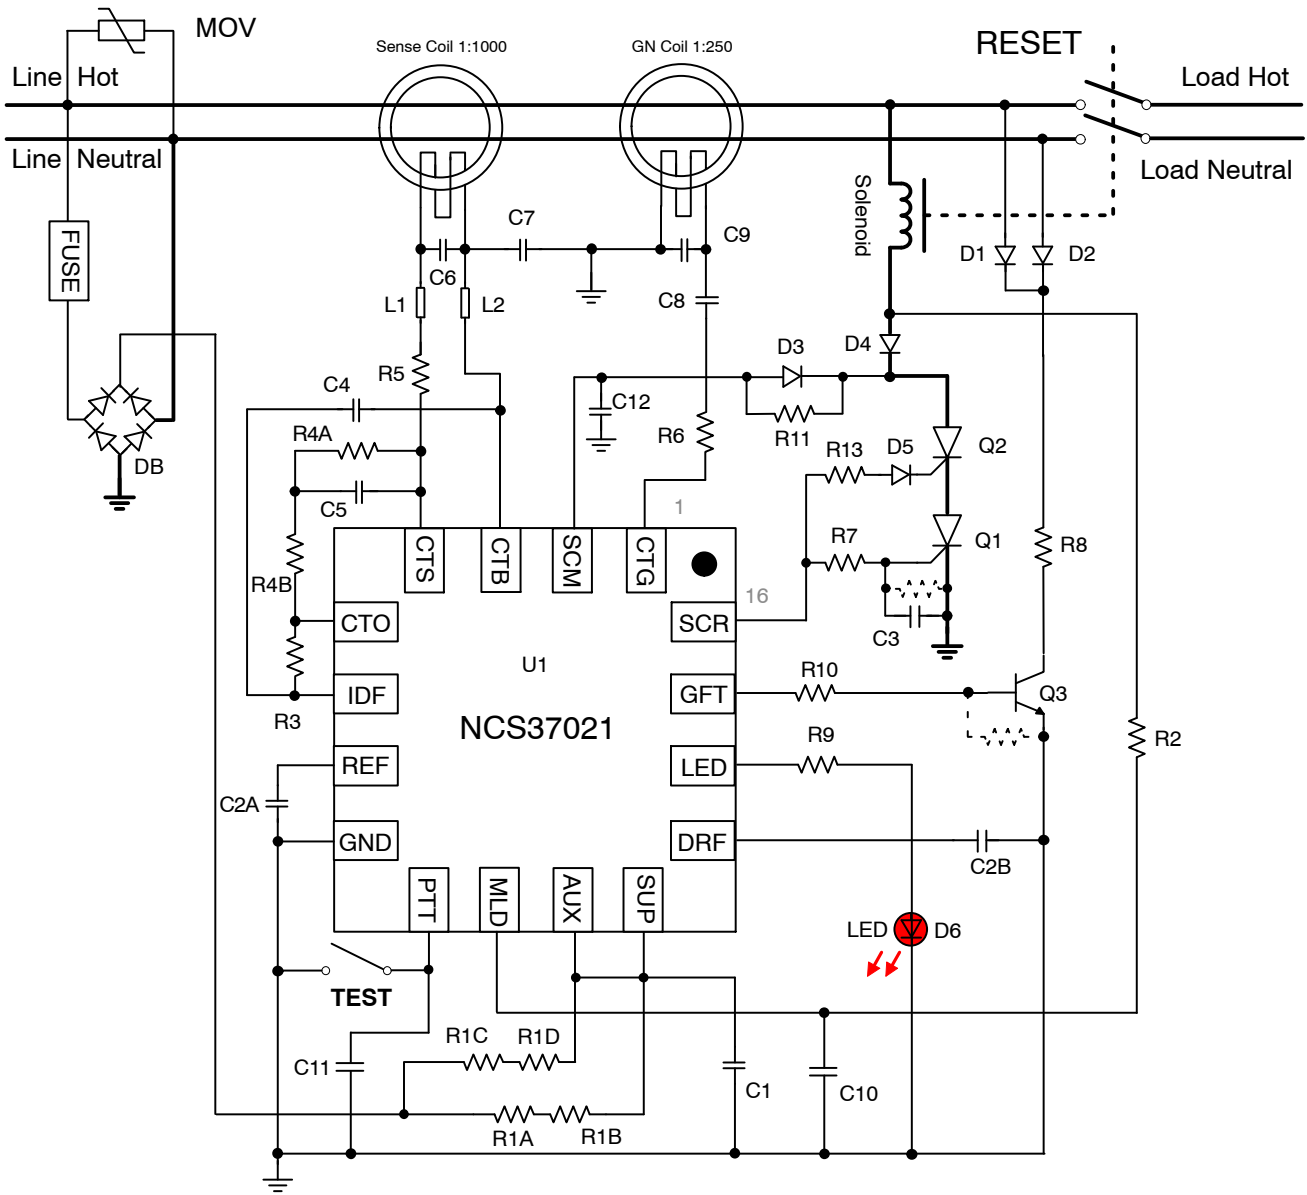

Figure 2. GFCI Receptacle Application Diagram
**Table 4. OPERATING RANGES** (Unless otherwise noted, ISUP = 3 mA, MLD input = 60 Hz, Refer to Figure 2)